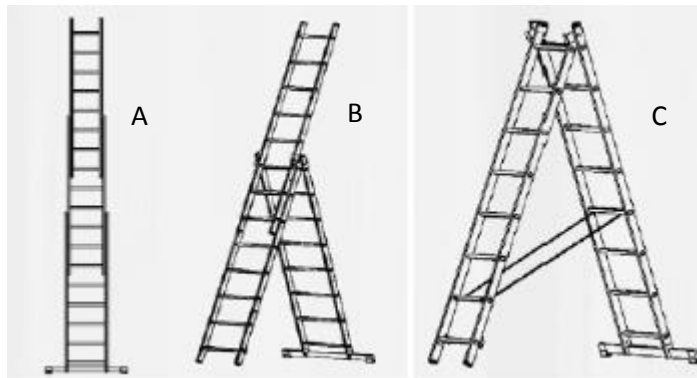

Fig. 7
Three-piece universal ladder is supplied without a mounted stabilization crossbar. It consists of a dismantlable set of three ladders with straps, stabilization crossbar, and connecting accessories to mount the stabilization crossbar. Upon mounting the stabilization crossbar, the ladder can be used in several versions, allowing for the narrow part to be used as a separate supporting ladder (except for model JC-313A). The ladder can be used as supporting ladder, extensible ladder, or step-ladder without support, or step-ladder without support with extensible ladder (Fig. 7).
**The version using extensible supporting ladder (A, Fig. 7)**
**The version using step-ladder without support (C, Fig. 7)**